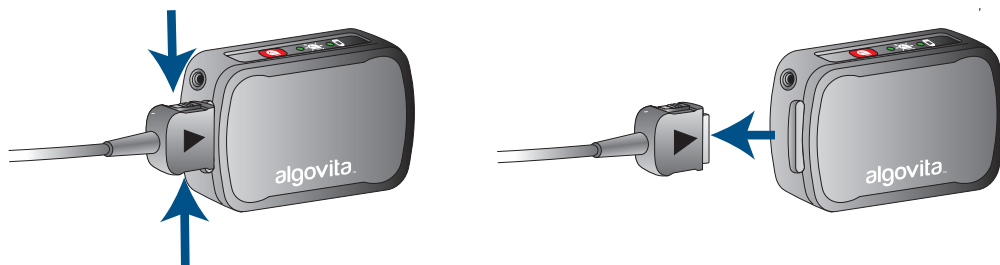

Figure 6. Disconnecting the trial cable
2. While squeezing both tabs on the trial cable connector (*Figure 6*), gently disconnect the cable from the EPG